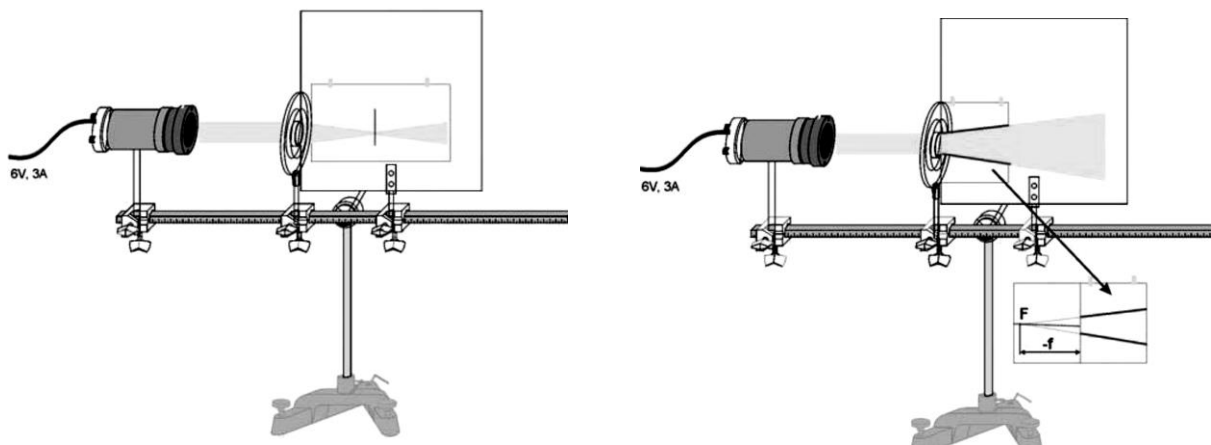

Fig. 41.6. Experimental setup for determining the focal lengths of converging (left) and diverging (right) lenses using parallel rays
5. Mark the point of convergence of the refracted light (Fig. 41.6 (left)) and measure the focal length.
6. To find the focal length of the diverging lens, fold the paper twice and fix it on the screen so that the fold line coincides with the side of the screen near the lens (Fig. 41.6 (right)).
9. Take the paper off, trace the lines back to the intersection point, and determine the focal length (Fig. 41.6 (right)). Analyse the results.